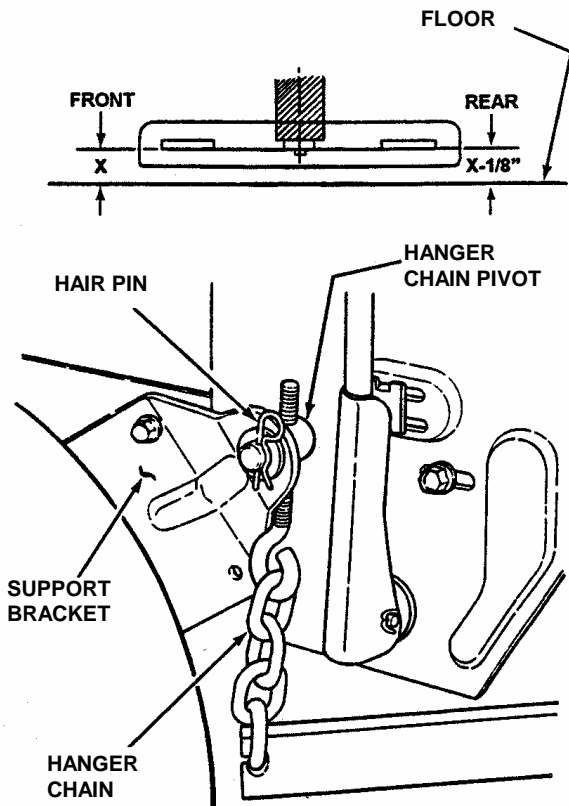

FIGURE 4.4
See Figure 4.4.
2. Turn each hanger pivot the same number of rotations on the eye-bolt to raise or lower the rear of the deck. See Figure 4.4.